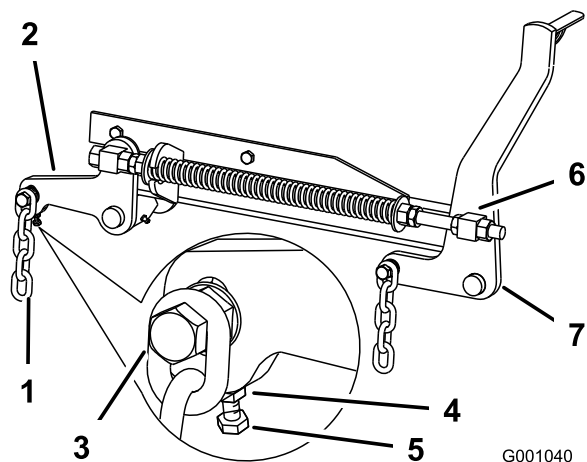

Figure 81
7. If the measurements at positions **B** or **C** are not correct, loosen the bolt attaching the rear chain to the rear support arm (Figure 81).
8. Loosen the jam nut under the rear support arm and adjust the adjustment bolt to get a measurement of 80 to 83 mm (3-1/8 to 3-1/4 inches)(Figure 81).
7. Loosen the front swivel jam nuts, at the front of the right and left swivels, approximately a 13 mm (1/2 inch) (Figure 81).
8. Adjust the lift nuts on both the left and the right side of the machine to achieve 6 to 10 mm (1/4 to 3/8 inch) lower in front at **A** than in the rear at **B** (Figure 81).